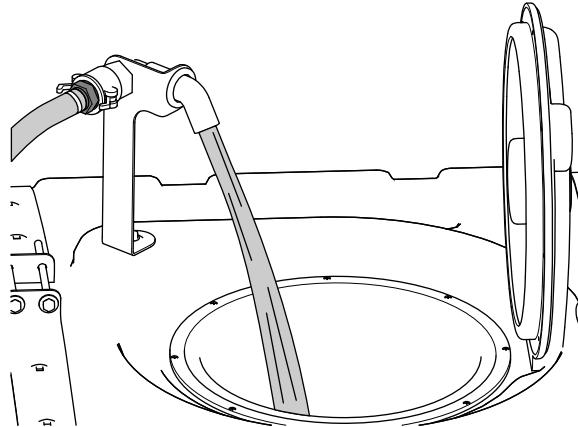

Figure 31
5. Add 3/4 of the required water to the spray tank (Figure 31).